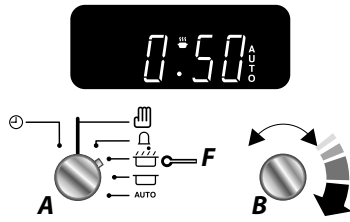
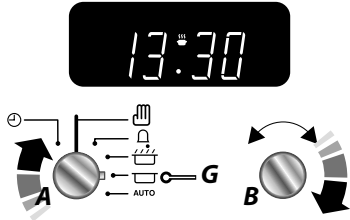

Fig. 2.26
Fig. 2.27
2. Turn the **Timer (A)** knob to the **Stop Time (G)** setting (**Fig. 2.26**). Turn the **Adjusting (B)** knob clockwise to the required stop time, e.g. add 1 minute (**Fig. 2.27**).
4. Turn the **Timer (A)** knob to the **Auto (H)** setting (**Fig. 2.27**). If the display shows the current time and the word 'AUTO' the Multifunction Oven is set to turn on and off.